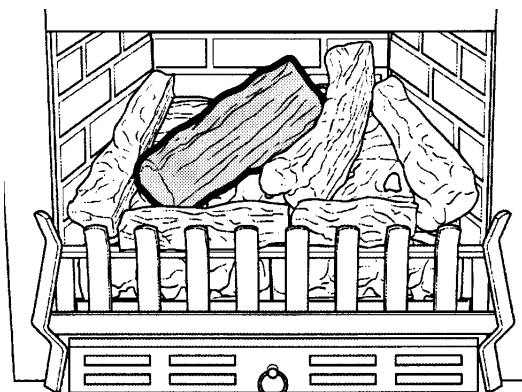

Figure 16 "E" log position
- Take the 'E' log and position as shown in figure 16. When positioned correctly, the opposite corners of the 'E' log should be in contact with both the left